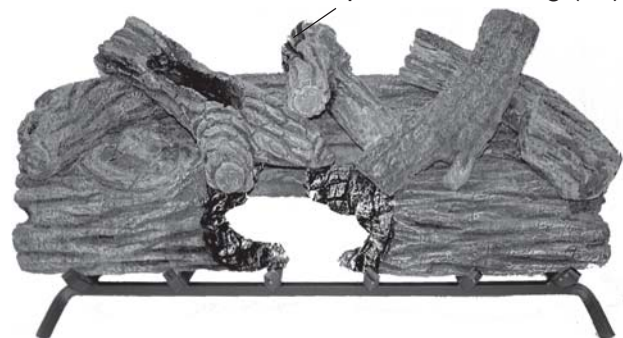

Figure 33 - Installing Top Crossover Log (#8)
9. Install top crossover log #8 as shown. *See Figure 33.*